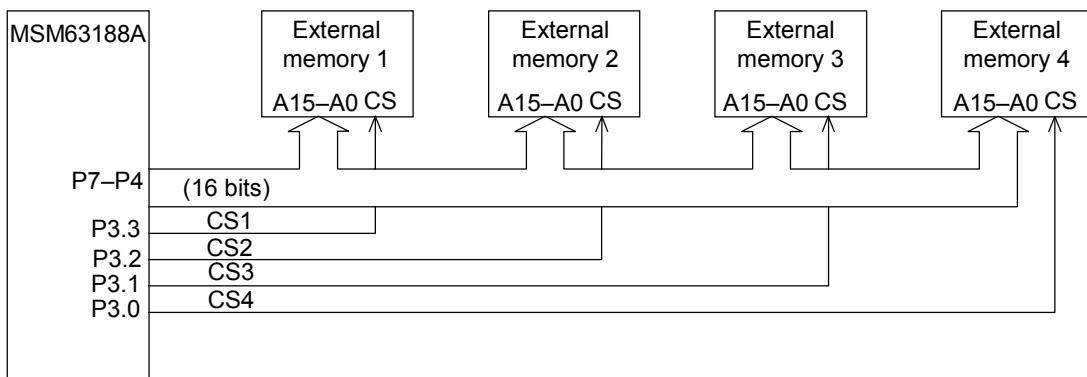

Figure 13-2 Example of Memory Expansion with Chip Select (CS)
Chip select (CS) can be used for ports other than those set for secondary functions to expand the external memory space above 64 Kbytes. For example (Figure 13-2), if port 3 (P3.3-P3.0) is used for chip select, the external memory space will be